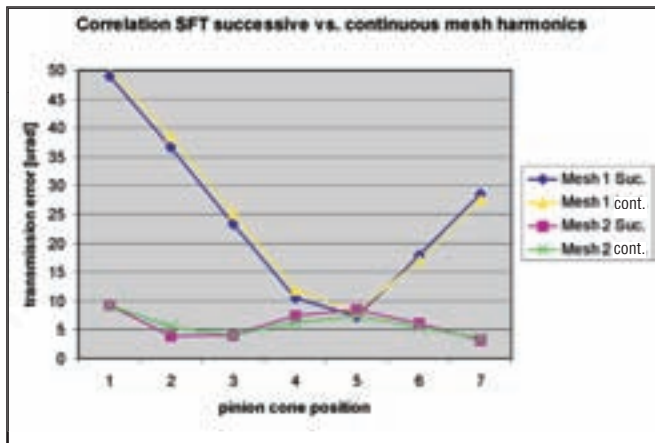

Figure 18—Single-flank transmission error successive checking vs. continuous checking.
**Correlation of successive with continuous check of single-flank evaluation.** In Figure 18, the correlation of both checking methods is visualized. Displayed are the results for mesh 1 and mesh 2, for both cases.